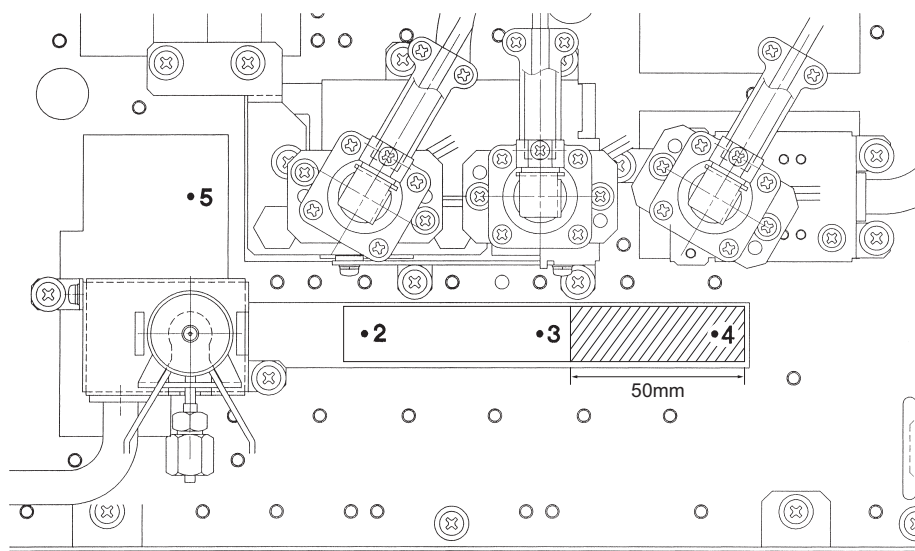

Fig.3.5.2 (b)
- (9) Insert the dual INJ on top of the heat insulator that has been taken out in step (6) and fasten it with three screws. (Refer to Fig. 3.5.2 (c)).
- (10) Connect the wiring that has been removed in step (4) to the dual INJ as it was originally.